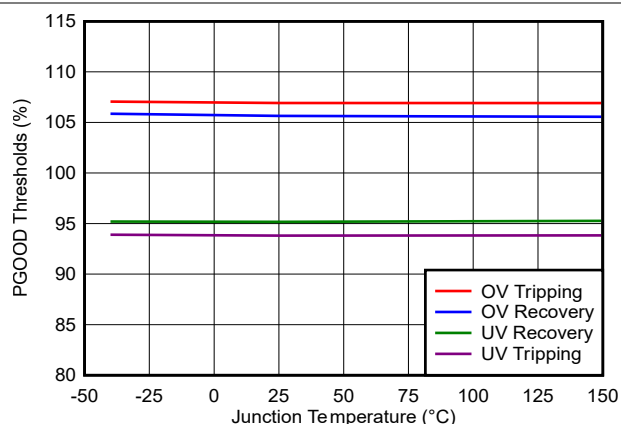
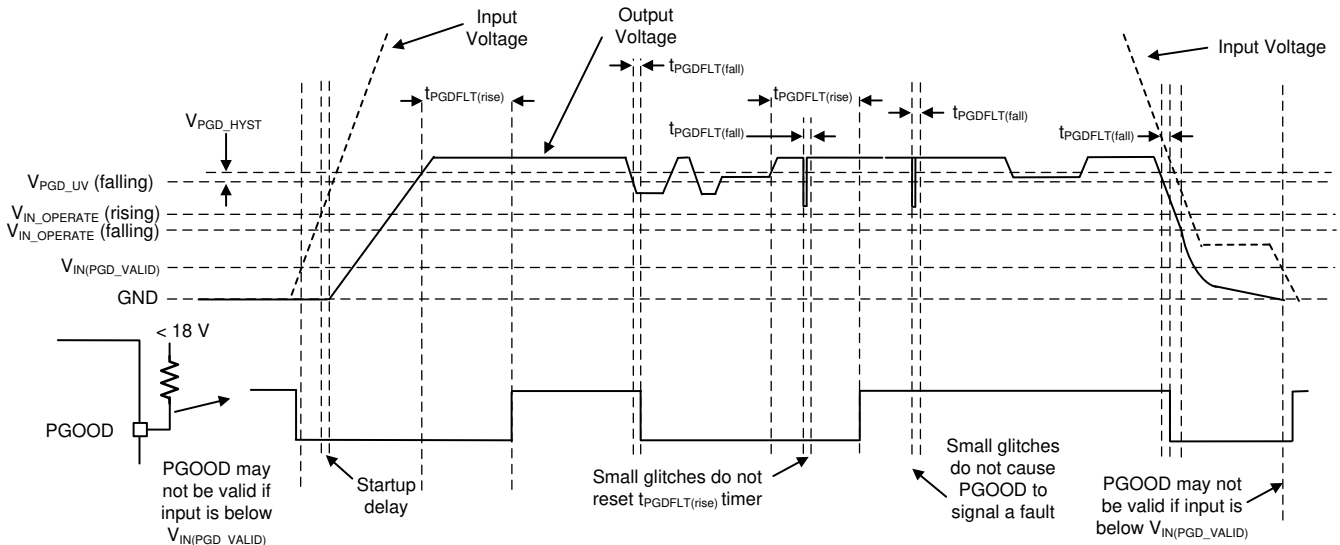

Figure 6-8. PGOOD Thresholds
Figure 7-5. PGOOD Timing Diagram (Excludes OV Events)
The PGOOD function is implemented to replace a discrete reset device, reducing BOM count and cost. The PGOOD voltage goes low when the feedback (FB) voltage is outside of the specified PGOOD thresholds (see Figure 6-8). This can occur during current limit and thermal shutdown, as well as when disabled and during normal start-up. A glitch filter prevents false flag operation for short excursions of the output voltage, such as during line and load transients. Output voltage excursions that are shorter than $t_{PGDFLT(fall)}$ do not trip the PGOOD flag. Refer to Figure 7-5 to best understand PGOOD operation.
$V_{OUT} < V_{OUT-target} \times PGD_{UV}$ AND $t > t_{PGDFLT(fall)}$	Output voltage in regulation: $V_{OUT-target} \times (PGD_{UV} + PGD_{HYST}) < V_{OUT} < V_{OUT-target} \times (PGD_{OV} - PGD_{HYST})$ (see Figure 6-8)